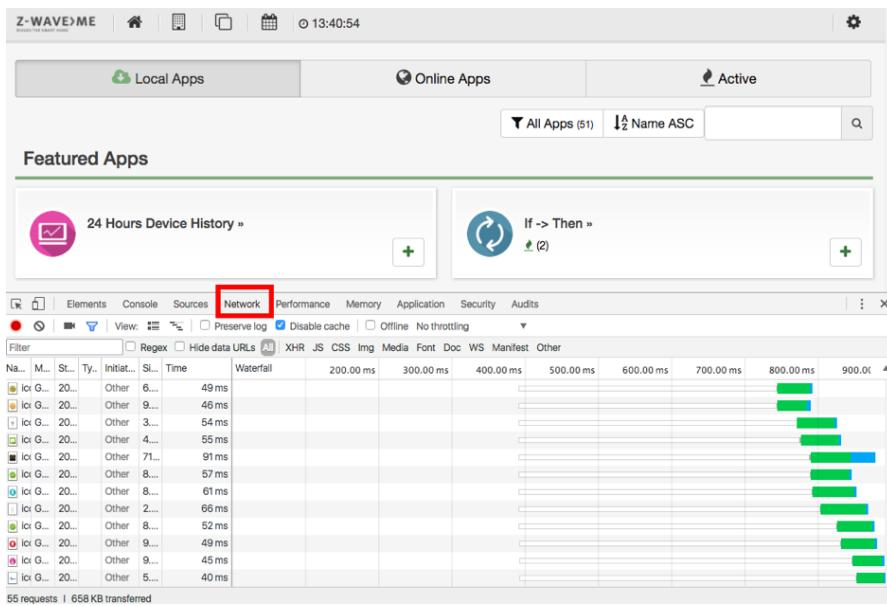

Figure 9.4: Web browser debug interface
1. Open the JavaScript Debug console. You find this option on the browsers menu under `View > Developer`. Figure 9.4 shows the web browser with debugger active.